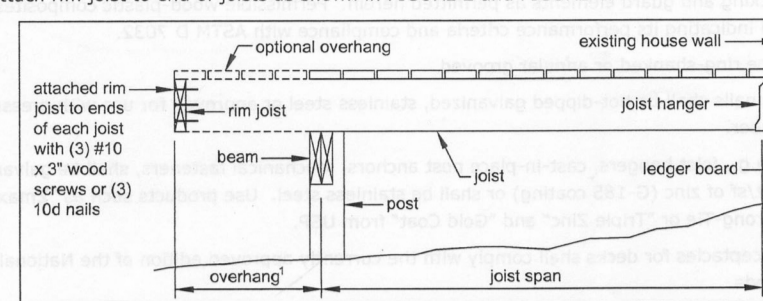
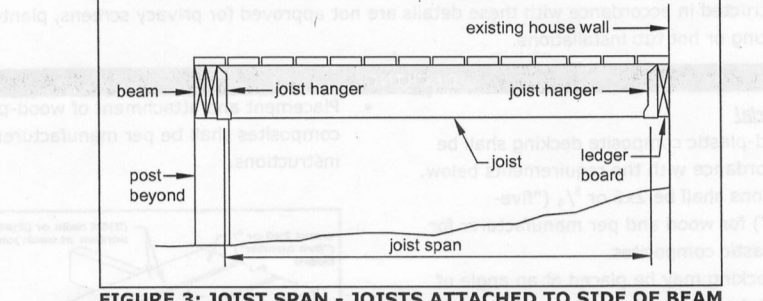
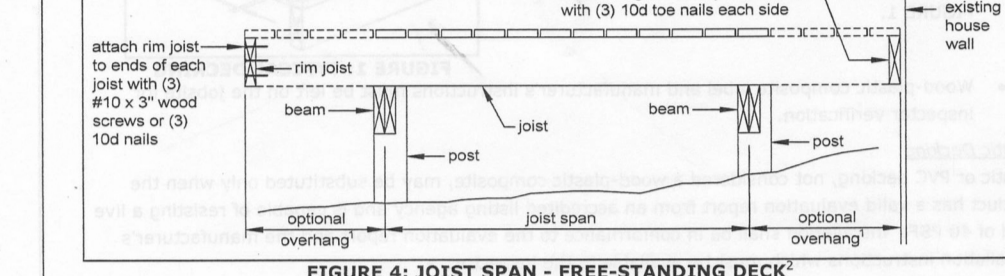
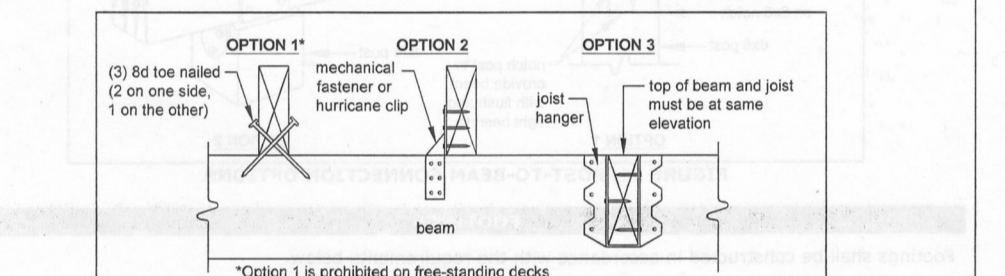

FIGURE 2: JOIST SPAN WITH OVERHANG - DECK ATTACHED AT HOUSE
FIGURE 3: JOIST SPAN - JOISTS ATTACHED TO SIDE OF BEAM
FIGURE 4: JOIST SPAN - FREE-STANDING DECK
FIGURE 8: JOIST-TO-BEAM DETAIL
- See FIGURE 2 through FIGURE 4 for joist span types.
- Attach rim joist to end of joists as shown in FIGURE 2 and FIGURE 4.
Each joist shall be attached to the beam as shown in FIGURE 8. Use Option 1 or Option 2 when joists bear on or overhang past the beam as shown in FIGURE 2 and FIGURE 4. Use Option 3 when joists attach to the side of the beam as shown in FIGURE 3; however, the joist depth must be less than or equal in depth to the beam depth. See **Joist Hangers** below for information on hanger requirements. Mechanical fasteners or hurricane clips used in Option 2 shall have a minimum capacity of 100 lbs. in both uplift and lateral load directions. See manufacturer's instructions for minimum installation requirements.